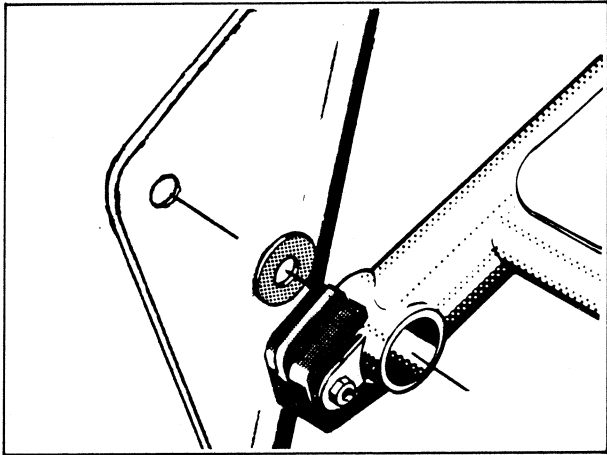

Fig. 6.1
**NOTE!** The washers shall be positioned between the frame and the rear fork. See fig. 6.1.